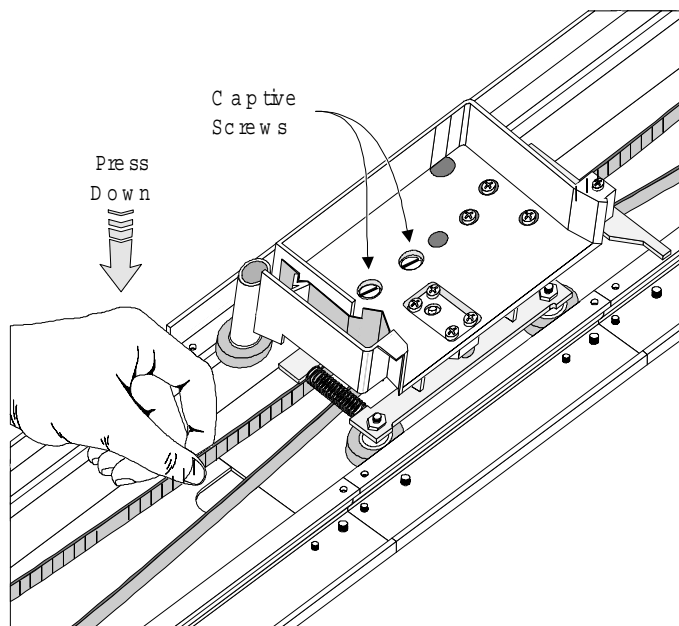

Figure 2-9 Aligning the Captive Screws With the Block
14. Locate the spring-loaded wheels of the car. Referring to Figure 2-9, engage the spring-loaded wheels in the track, while positioning the car so the captive screws are directly over the holes in the belt block. **Note:** Figure 2-9 omits the door on the car for clarity. *Do not remove the door.*
3. Referring to Figure 2-9, open the door of the car to gain access to the captive screws. *Do not remove the door.* Loosen the captive screws until they are disengaged from the belt block.